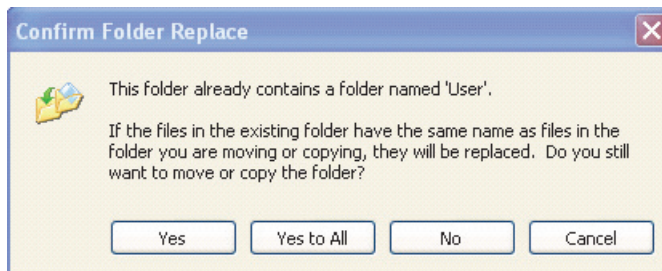

Figure 4-30 The Confirm Folder Replace message box
4. If the **Confirm Folder Replace** message box appears, click **Yes to All** (see Figure 4-30 on page 91).